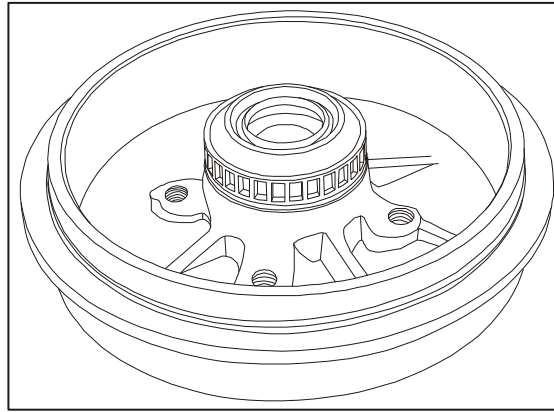

Fig.5-22 Rear Brake Drum
(1) Clean the braking fluid thoroughly, and remove the dust and dirt.
(2) Skid over the operating surface of brake drum with finger nails, check the braking surface of brake drum visually for scratches and cracks, any large and deep scratch means that the surface of brake drum must be repaired, and any crack means that the brake drum must be replaced. In addition, highly polished brake drum surface can cause the insufficiency of braking noise and braking force.
(3) Check the brake shoe for wears to judge and disclose the defects of brake drum. If one end of brake shoe is seriously worn, it indicates that the brake drum is deformed and out of circularity; if the brake shoe is unevenly worn, it may be caused by the pyramid formation of brake drum.
(4) Check the brake drum for wears and deformations by measuring the inner diameters of brake drum in several positions around the operating surface of brake drum with a vernier caliper, as shown in Fig.5-22. Max. allowable diameter of worn brake drum shall be $\phi 205\text{mm}$. When the measured diameter exceeds the maximum allowable value, replace the brake drum. When the brake drum is deformed to conicity or out of circularity but its allowance for machining is enough, machine and repair it.